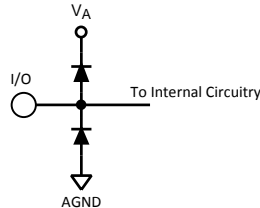

Figure 2.
- (1) The inputs are protected as shown below. Input voltage magnitudes above V_A or below GND will not damage this device, provided current is limited per Note 4 of the Absolute Maximum Ratings Table. However, errors in the A/D conversion can occur if the input goes above V_A or below GND by more than 100 mV. As an example, if V_A is +3.3V, the full-scale input voltage must be $\leq +3.4V$ to ensure accurate conversions. See Figure 2.
- (2) To ensure accuracy, it is required that $|V_A - V_D| \leq 100\text{ mV}$ and separate bypass capacitors are used at each power supply pin.
- (3) With the test condition for $V_{REF} = +1.0V$ (2V_{P-P} differential input), the 12-bit LSB is 488 μV .
- (4) Typical figures are at $T_J = 25^\circ\text{C}$, and represent most likely parametric norms. Test limits are to AOQL (Average Outgoing Quality Level).
- (5) Integral Non Linearity is defined as the deviation of the analog value, expressed in LSBs, from the straight line that passes through positive and negative full-scale.
- (6) Optimum performance will be obtained by keeping the reference input in the 0.8V to 1.2V range. The LM4051CIM3-ADJ (SOT-23 package) is recommended for external reference applications.
- (7) This parameter is specified in units of dBFS - indicating the equivalent value that would be attained with a full-scale input signal
- (1) The inputs are protected as shown below. Input voltage magnitudes above V_A or below GND will not damage this device, provided current is limited per Note 4 of the Absolute Maximum Ratings Table. However, errors in the A/D conversion can occur if the input goes above V_A or below GND by more than 100 mV. As an example, if $V_A = +3.3V$, the full-scale input voltage must be $\leq +3.4V$ to ensure accurate conversions. See Figure 2.
- (4) Typical figures are at $T_J = 25^\circ C$, and represent most likely parametric norms. Test limits are to AOQL (Average Outgoing Quality Level).
- (3) With the test condition for $V_{REF} = +1.0V$ ($2V_{P-P}$ differential input), the 12-bit LSB is $488\text{ }\mu\text{V}$.
- (4) Timing specifications are tested at TTL logic levels, $V_{IL} = 0.4V$ for a falling edge and $V_{IH} = 2.4V$ for a rising edge.
- (5) Typical figures are at $T_J = 25^\circ\text{C}$, and represent most likely parametric norms. Test limits are to AOQL (Average Outgoing Quality Level).
- (6) This parameter is ensured by design and/or characterization and is not tested in production.